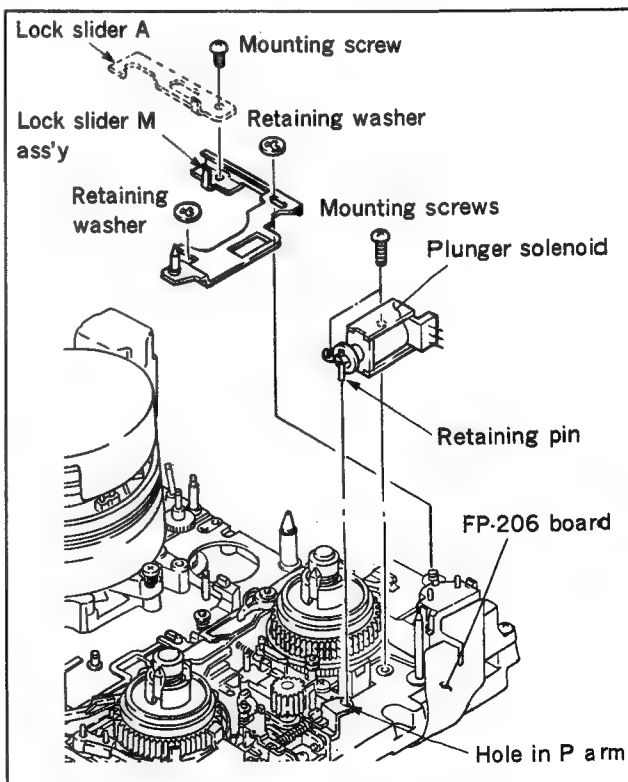

Fig. 4-22-2 Removing the plunger solenoid
- 2) Align the retaining pin shown in Fig.4-22-2 with the hole in P arm, then insert retaining pin. Next, install plunger solenoid with two screws.